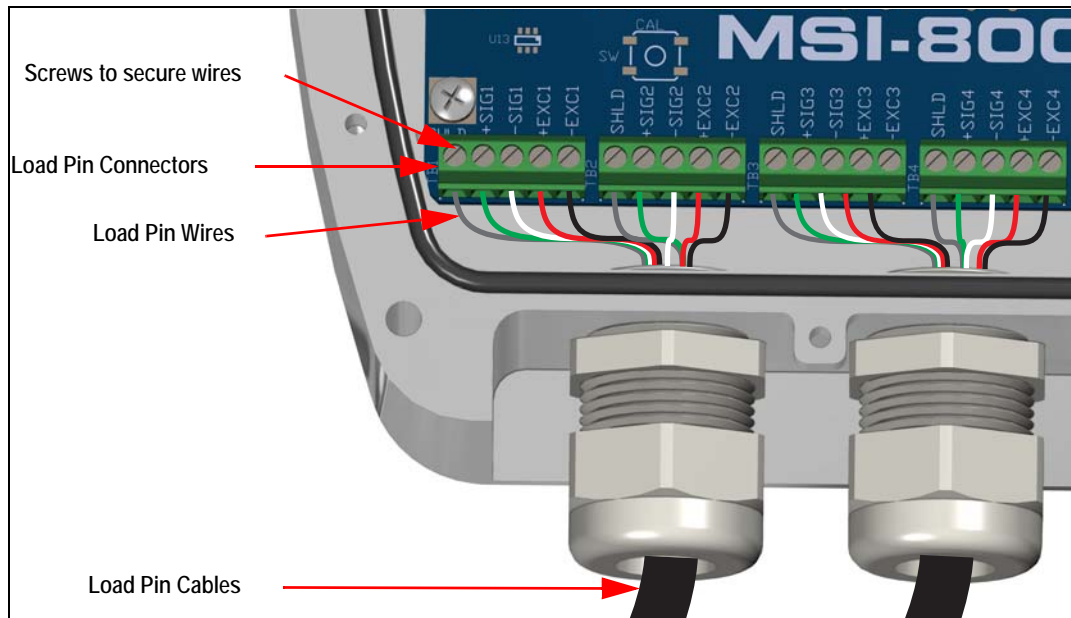

Figure 3-5. Install Load Pin Cables
6. Insert stripped end of each wire into the holes of the connector as indicated in Figure 3-5.